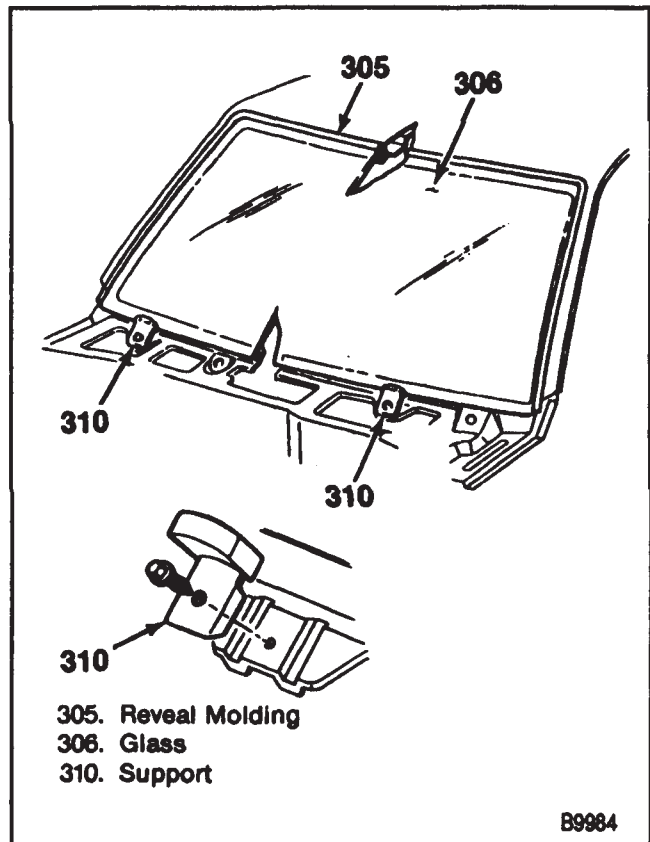

Figure 2—Windshield Stops
2. Lower window stops (figure 2).
2. Lower support spacers (figure 2).
3. Lower support spacers (figure 2).